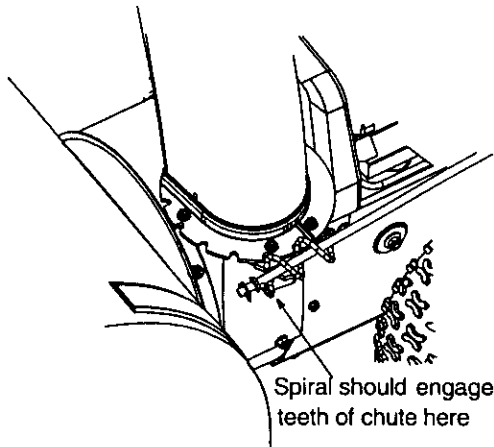

Figure 11
- Adjust the chute directional control bracket so that the spiral on the chute directional control fully engages the teeth on the chute assembly. See Figure 11. Tighten all hardware.